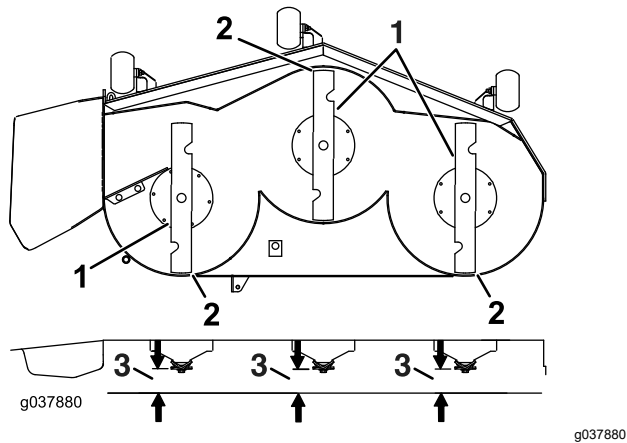

Figure 96
7. Check the front-to-rear blade level (Figure 96). Ensure the front blade tip is lower than the rear blade tip as shown in the block height and rake table. If adjustment is needed, continue with this procedure.